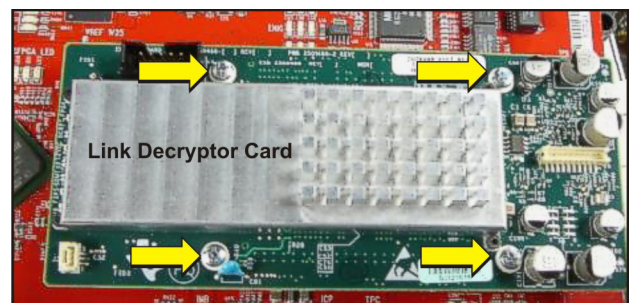

Figure 5-60 Remove Link Decrypter Card
5. Remove the four screws securing the link decrypter card to the PIB. **(Figure 5-60)**